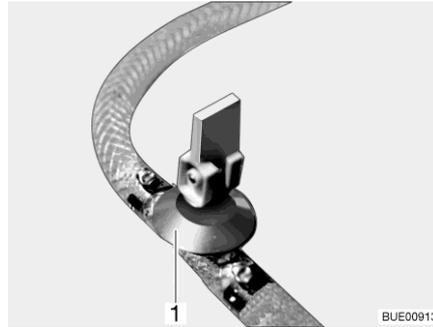

Fig. 151 Drain cock (with rocking lever)
- Open all drain cocks. In order to do this, position the rocking lever of the drain cock (Fig. 151,1) vertically.